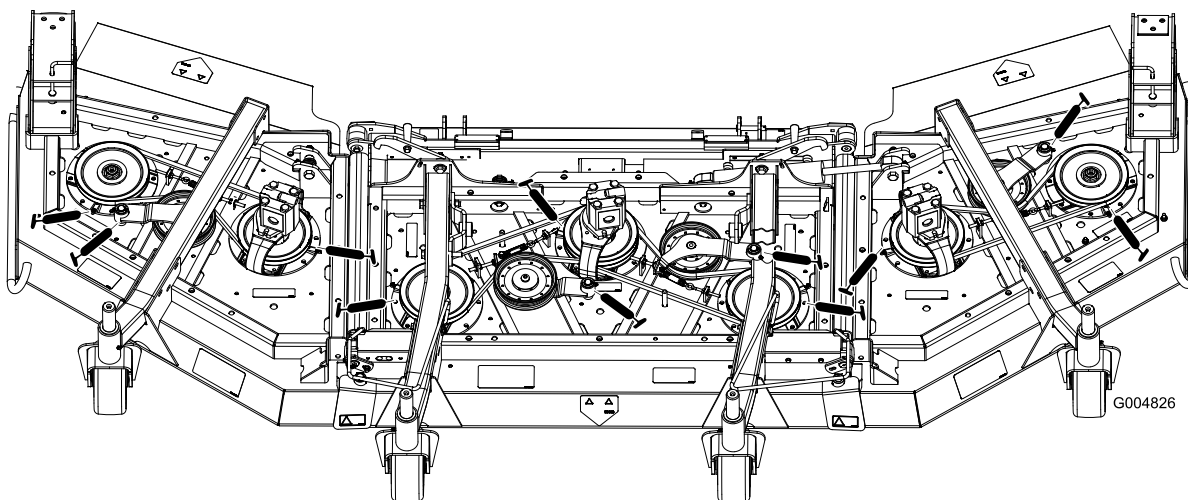

Figure 41
- Spindle shaft bearings (3) (located under the pulley) (Figure 41)
- Idler arm pivot bushings (2) (Figure 41)